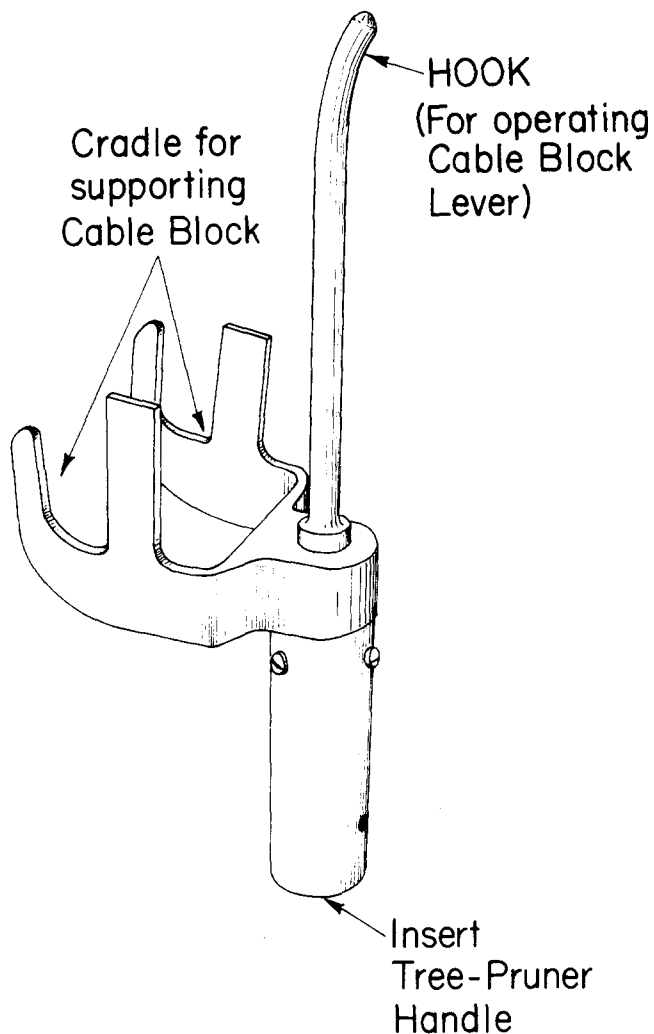
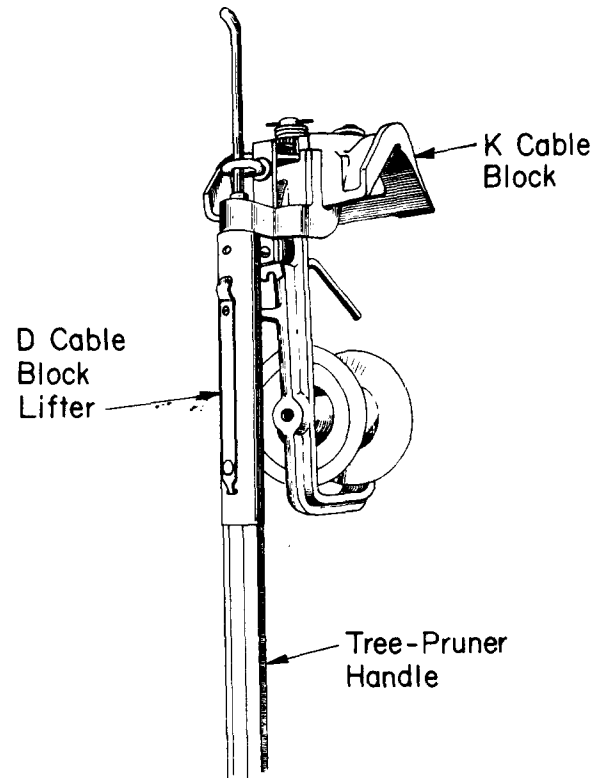

Fig. 5—D Cable Block Lifter
Fig. 6—D Cable Block Lifter (With K Cable Block)
4.01 **D Cable Block Lifter:** The D cable block lifter, shown in Fig. 5, is used with tree-pruner handle sections to place and lock the K cable block on the suspension strand (Fig. 6).